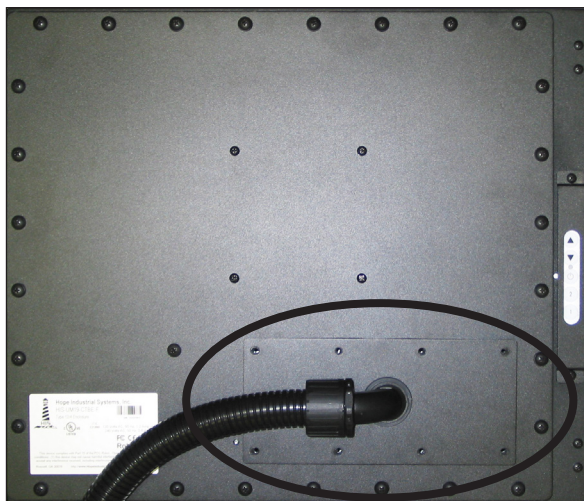

FIGURE 2
2. Refer to Figure 2. Position the cover plate on the rear of the monitor with the Conduit Elbow pointing towards the center of the monitor.